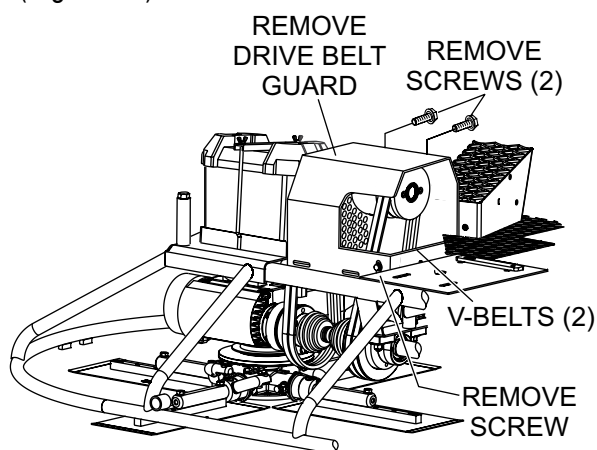

Figure 21. Drive Belt Guard Removal
1. To gain access to the drive belts for inspection, remove the 3 screws that secure the drive belt guard (Figure 21) to the frame.
1. To replace the existing drive belts with the spare drive belts, remove the 3 bolts (Figure 21) that secure the drive belt guard to the frame.